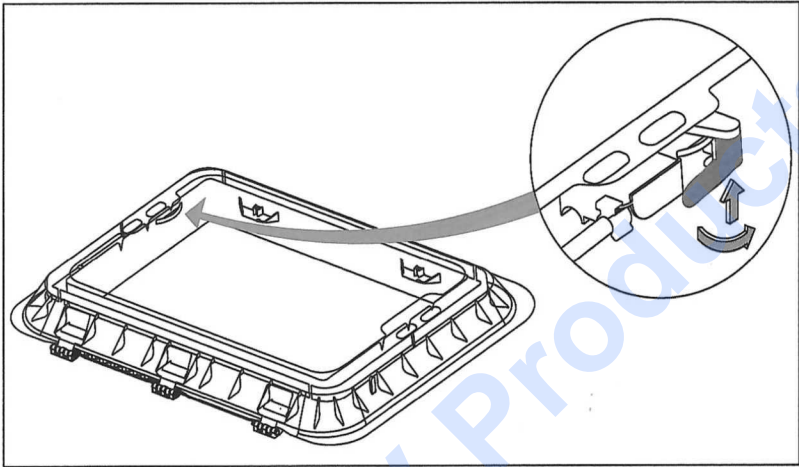

Figure 1
1. Press handle button and rotate it to 90° (see Figure 1).